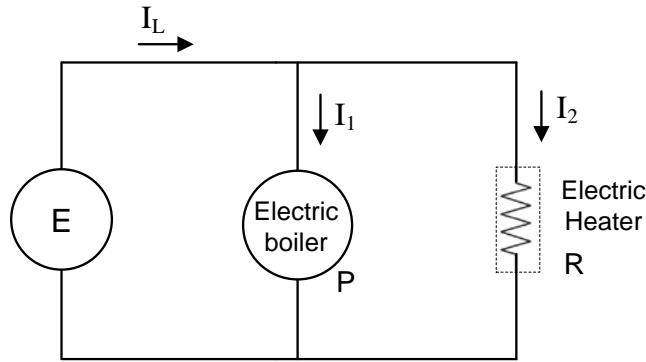

Figure 1.2
- (b) A single phase AC source with voltage $E = 1.5 \text{ kV}$ delivers power to an electric boiler and an electric heater as shown in Figure 1.2. The power of the boiler, P is 120 kW while the resistance of the heater, R is 80Ω . If the system uses base voltage, $E_B = 500 \text{ V}$ and base power, $P_B = 10 \text{ kW}$, calculate the following: